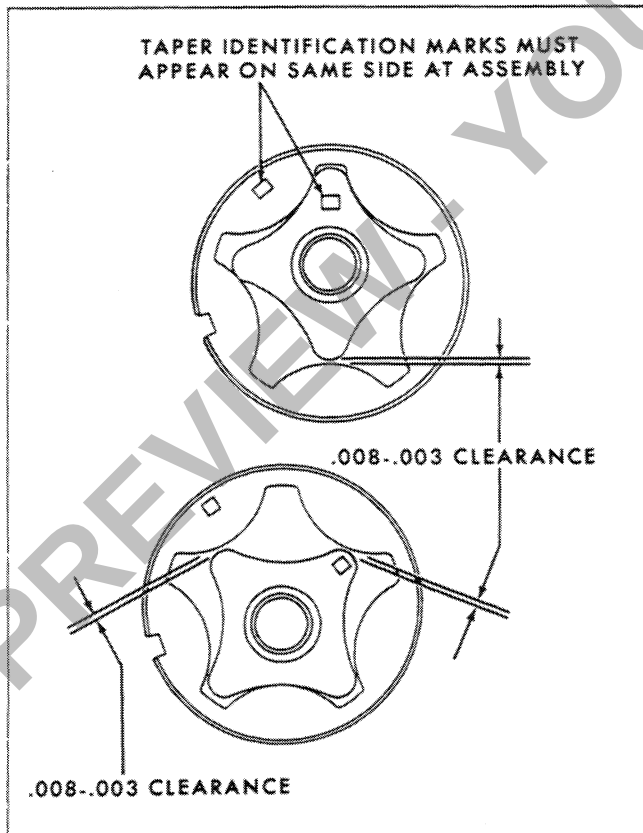

Figure 21
3. Install the rotor and shaft assembly in the housing and check the rotor-to-outer race clearance. With the rotor positioned as shown in Figure 21, the clearance should not exceed .008" at the points indicated.